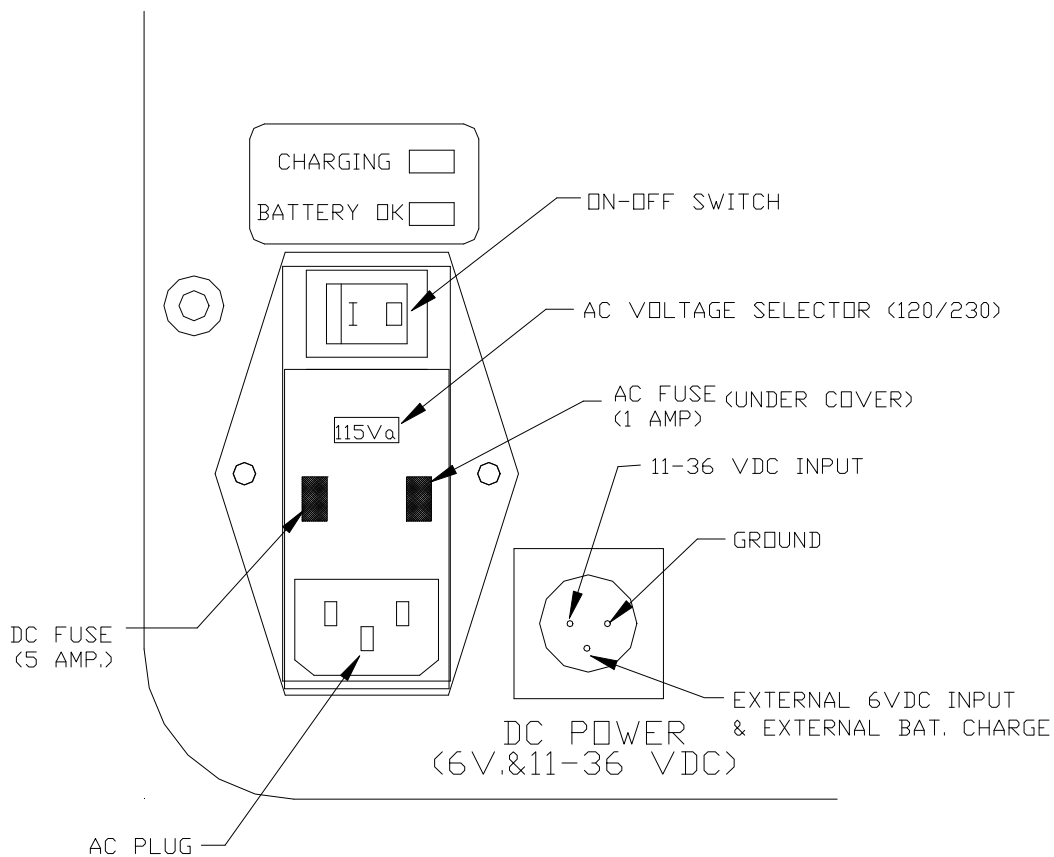

FIGURE 6
6. The ON/OFF switch module can be set for either 120 VAC or 230 VAC. The current setting is shown on the face of the module. If you wish to change the setting, lift the tab that covers the module, pull out the plastic insert that indicates the voltage setting and insert it so that the correct voltage setting is shown on top. See figure 6.